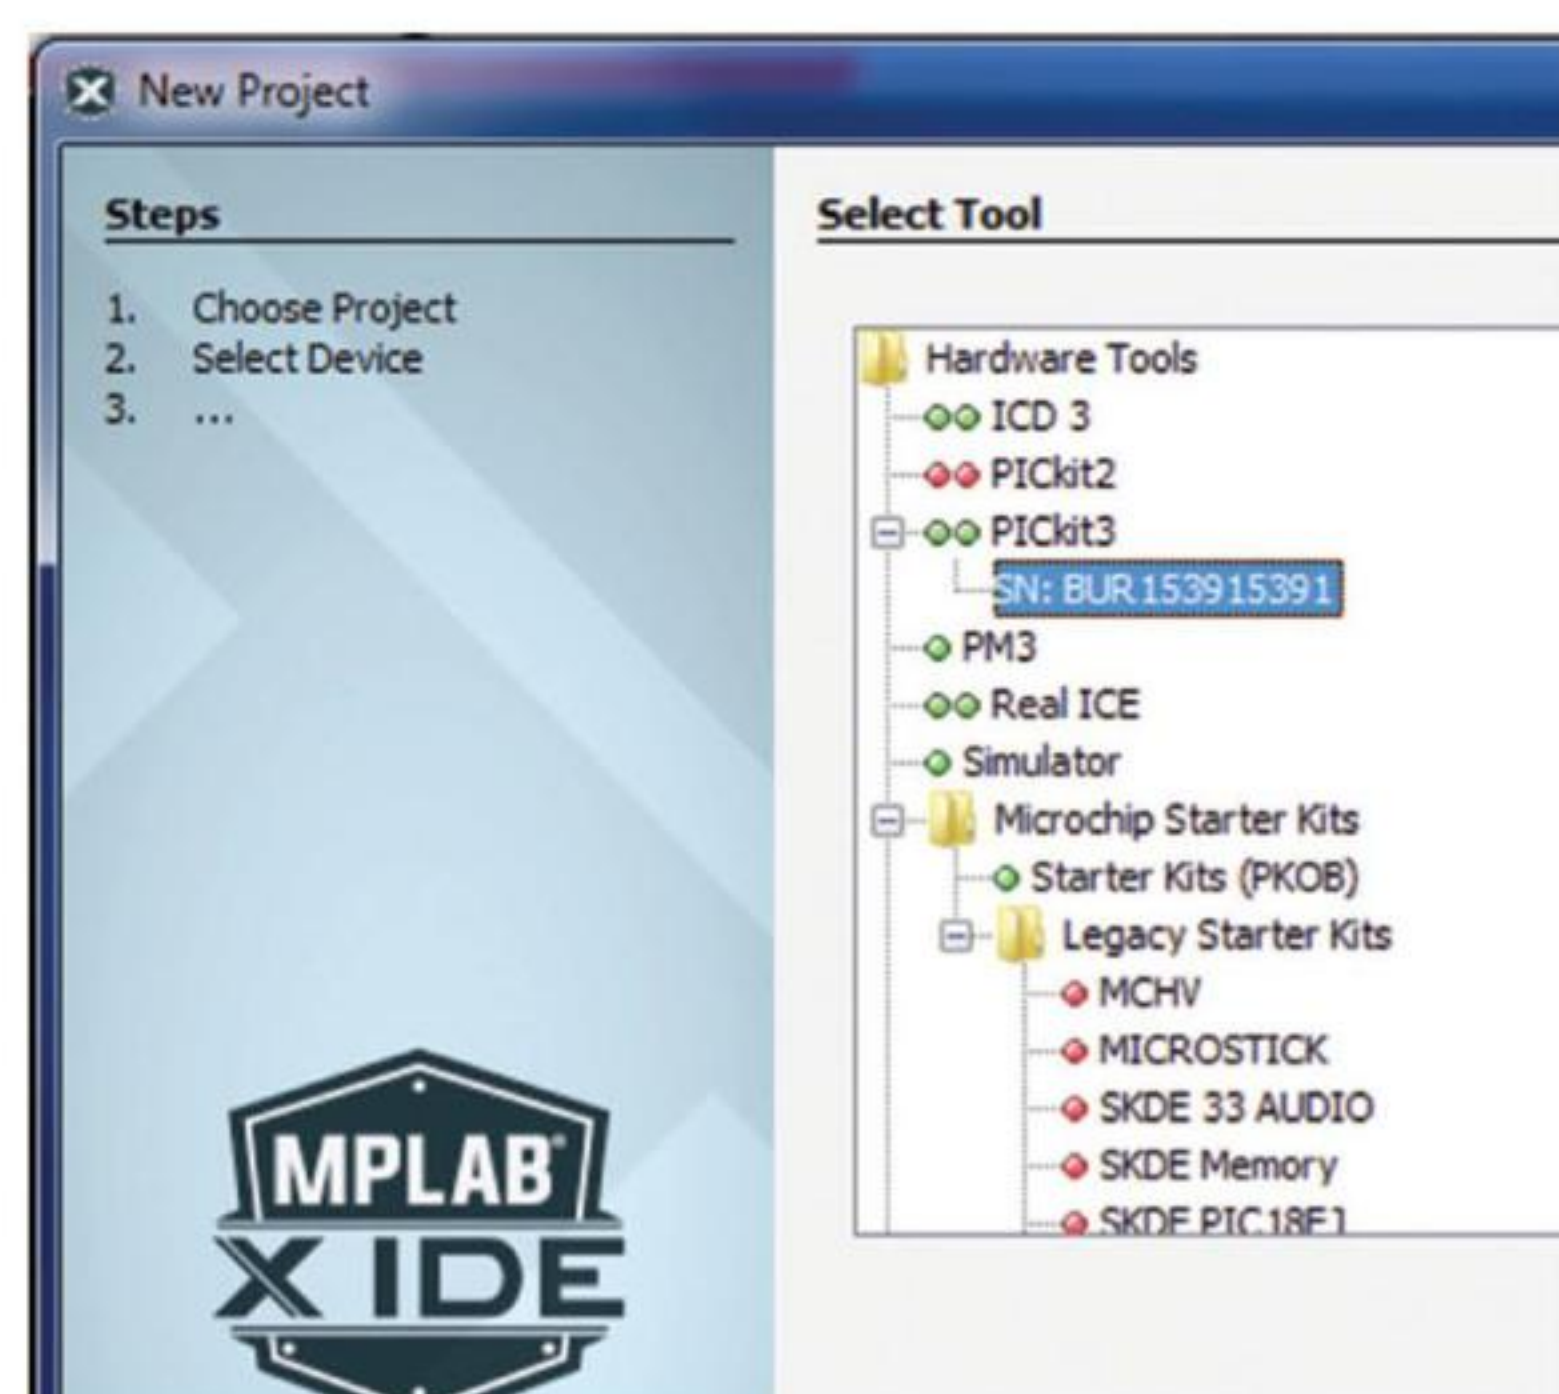

Fig.1. New Project → Select Programmer tool
4. Here we choose our debugger, which is the PICkit3. If our PICkit 3 programmer is connected, it should be highlighted in green with the serial number below it, as shown in Fig.1. Click Next again.